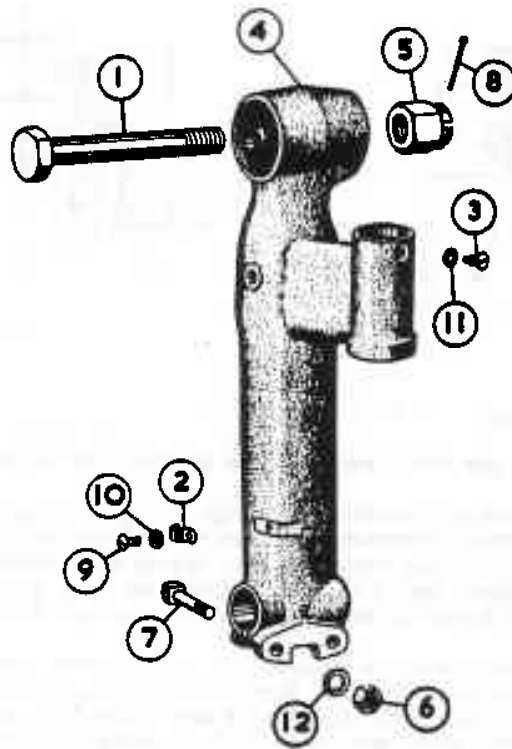

FIG. H16. THE YOKE TO LOWER TRIANGLE LEVER.
- (ii) Early type assembly, replace oil trough (17), with lip uppermost. Later type assembly, replace felt washer (28) distance piece (27). Place the metal packing ring and felt washer sub-assembly (16 and 21) in the recess provided, i.e. with the packing ring against the yoke. Renew the felt washer if necessary and soak in oil before fitting.
- (iii) With the 34 needle rollers in position in the lower bearing, place the stub axle on to the yoke. Enter the pivot pin as far as it will go by hand, sighting upon entering to make sure that the narrow slot in the top of the pivot pin is lying in a radial line with the dowel screw (3, Fig. H16). The pin must be driven in until the shoulder on the pin makes contact with the corresponding shoulder in the yoke.
- (v) Lubricate and place the thrust washer (25) into the recess in the bottom cover. The thickness of a new thrust washer is .098" - .001" and the depth of the recess in the bottom cover is .100" + .004". The fitting allowance (end lift) of a stub axle is from .007" to .017".